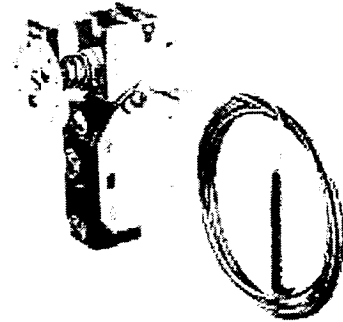

Fig. 1 – A19 Temperature Control
4. Calibrated dial and pointer, with factory adjustable (not field) low cutout or high cutout stops when specified (Figs. 1 and 2).